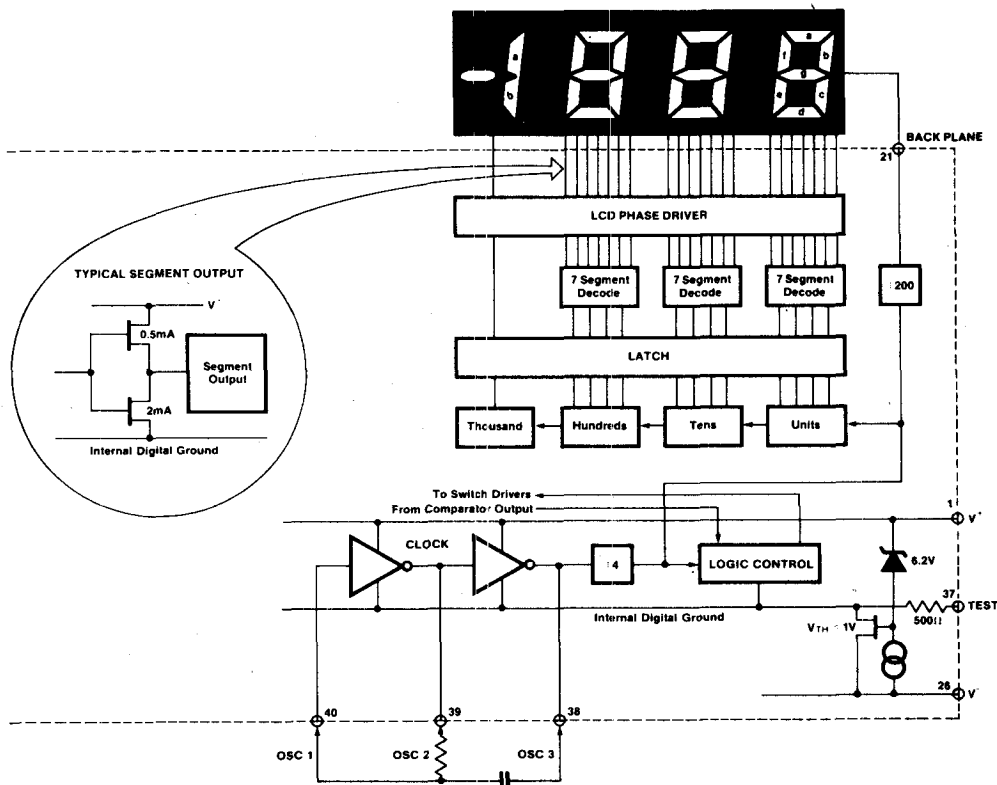

Figure 7: Digital Section 7106
Figures 7 and 8 show the digital section for the 7106 and 7107, respectively. In the 7106, an internal digital ground is generated from a 6 volt Zener diode and a large P channel source follower. This supply is made stiff to absorb the relative large capacitive currents when the back plane (BP) voltage is switched. The BP frequency is the clock frequency divided by 800. For three readings/second this is a 60 Hz square wave with a nominal amplitude of 5 volts. The segments are driven at the same frequency and amplitude and are in phase with BP when OFF, but out of phase when ON. In all cases negligible d-c voltage exists across the segments.